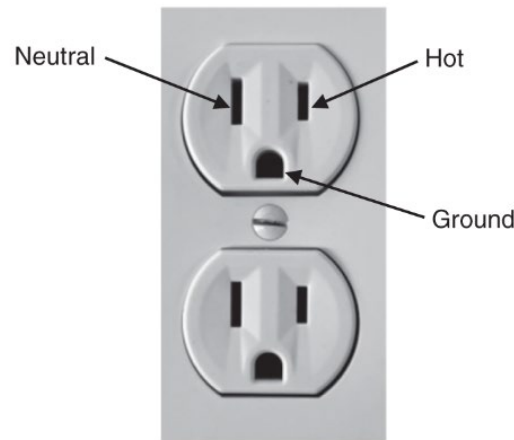

Figure 10.6: Standard 120-V household receptacle used in the United States.
- Figure 10.6 shows the standard household plug with center rounded pin at the bottom connected to the ground wire. The narrow blade on the right is connected to the hot wire, and the wide flat blade on the left is connected to the neutral. NEC requires that all receptacles must have ground connection with a minimum wire size of 14 AWG (copper) and 12 AWG (aluminum) for 15-A circuits and 12 AWG (copper) and 10 AWG (aluminum) for 20-A circuits.